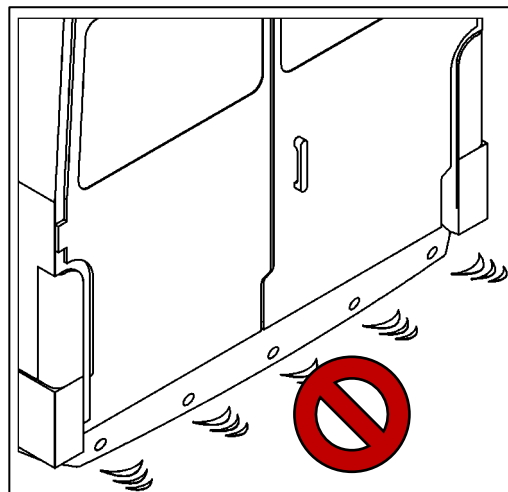

Fig. 10
- For vehicles with rear parking sensors, the sensors will no longer function correctly once the platform is installed, because the lifting gear interferes with the sensors (see Fig. 10).